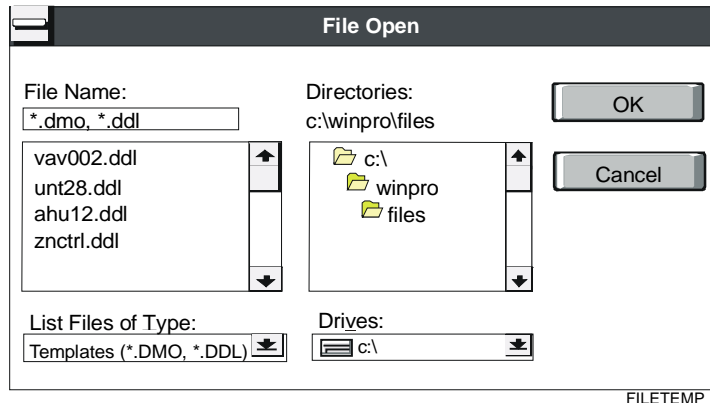

Figure 12-2: File Open Dialog Box
1. On the File menu, click Open. If you are not currently creating a configuration, the File Open dialog box displays (Figure 12-2).